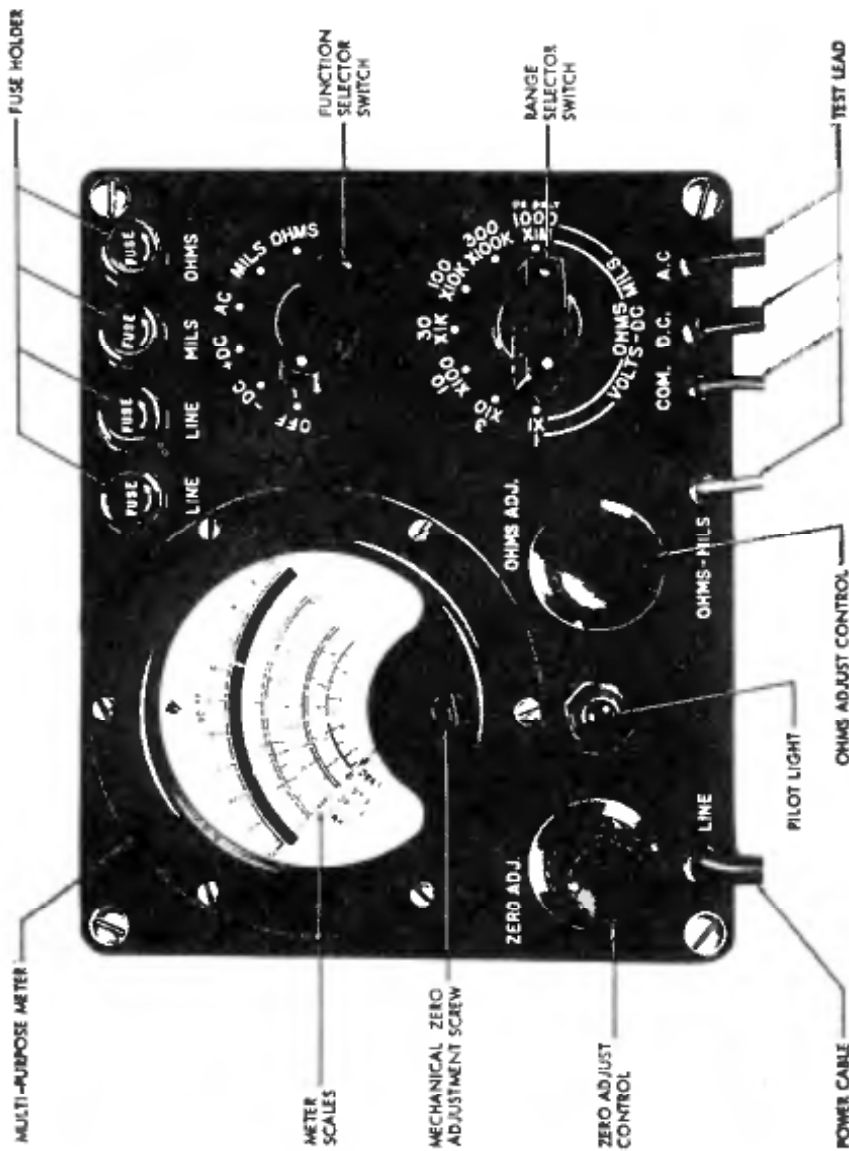

Figure 3-1. Electronic Multimeter AN/USM-116,
a. DESCRIPTION OF CONTROLS. (See figure 3-1.)
(1) The function selector switch switches in the necessary circuits to make the measurements listed below. It also serves as the ac power switch for the instrument. When it is set in the OFF position both sides of the ac line are disconnected.
With the power off, check to see if meter pointer rests at zero. If pointer does not rest at zero, carefully turn meter mechanical zero adjustment screw (located just below the meter scales, see figure 3-1) with a screwdriver until pointer coincides